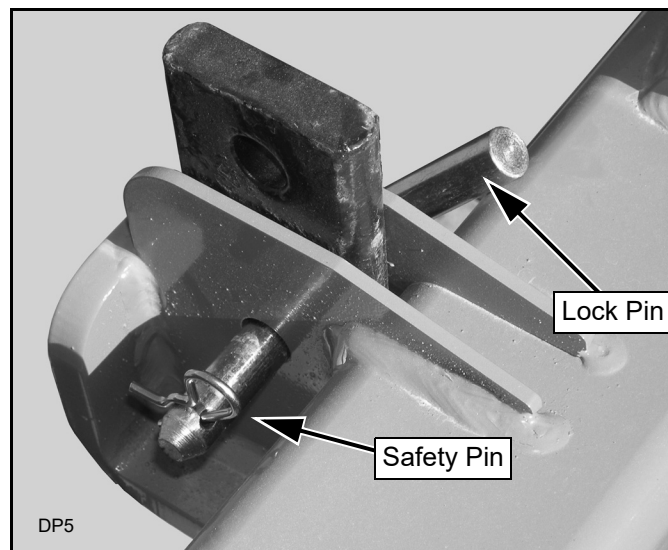

Figure 6. Scarifier Shank Adjustment
3. Remove safety pin and lock pin. Adjust scarifier to desired position, Figure 6.